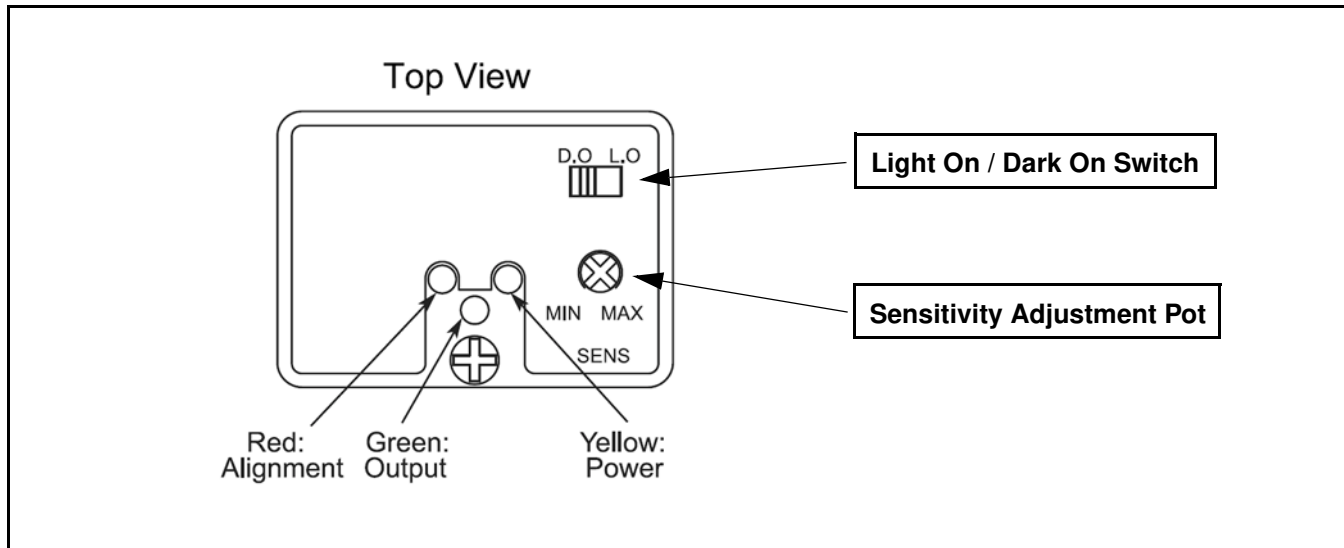

Figure 19
5. Photo eye comes preset to Light-On operation which causes the conveyor to run when the sensed zone is clear and stop when the sensed zone is blocked. For Dark-On operation move selector to D.O. position (Figure 19).